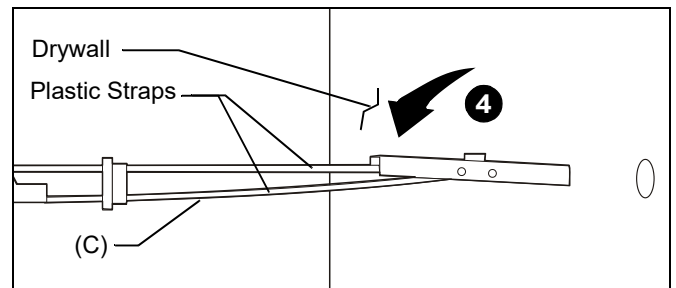

Figure 7
- Hold metal channel on anchor (C) flat alongside plastic straps and slide channel through hole. (See Figure 7)